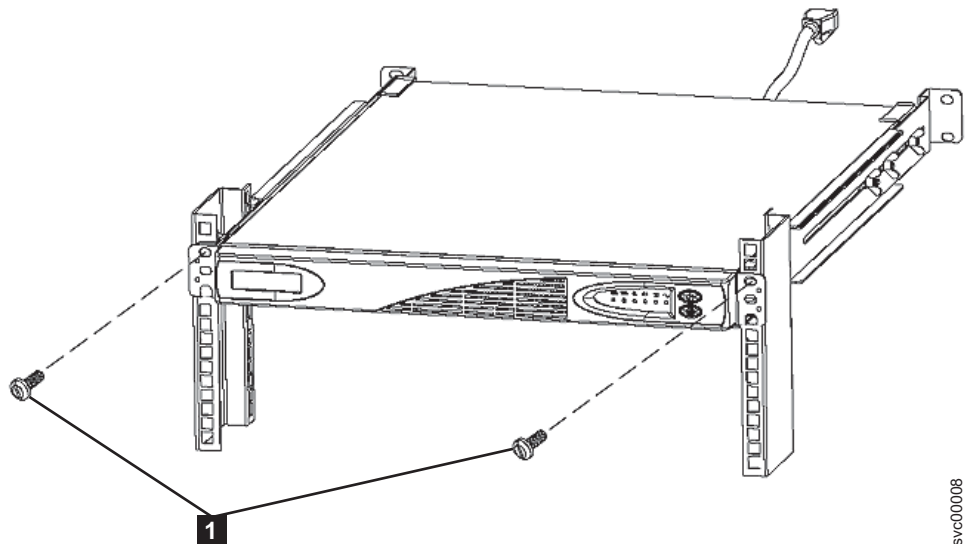

Figure 140. Removing the mounting screws from the 2145-1U uninterruptible power supply
9. At the front of the 2145 UPS-1U, unscrew the two mounting screws. See **1** in Figure 140.